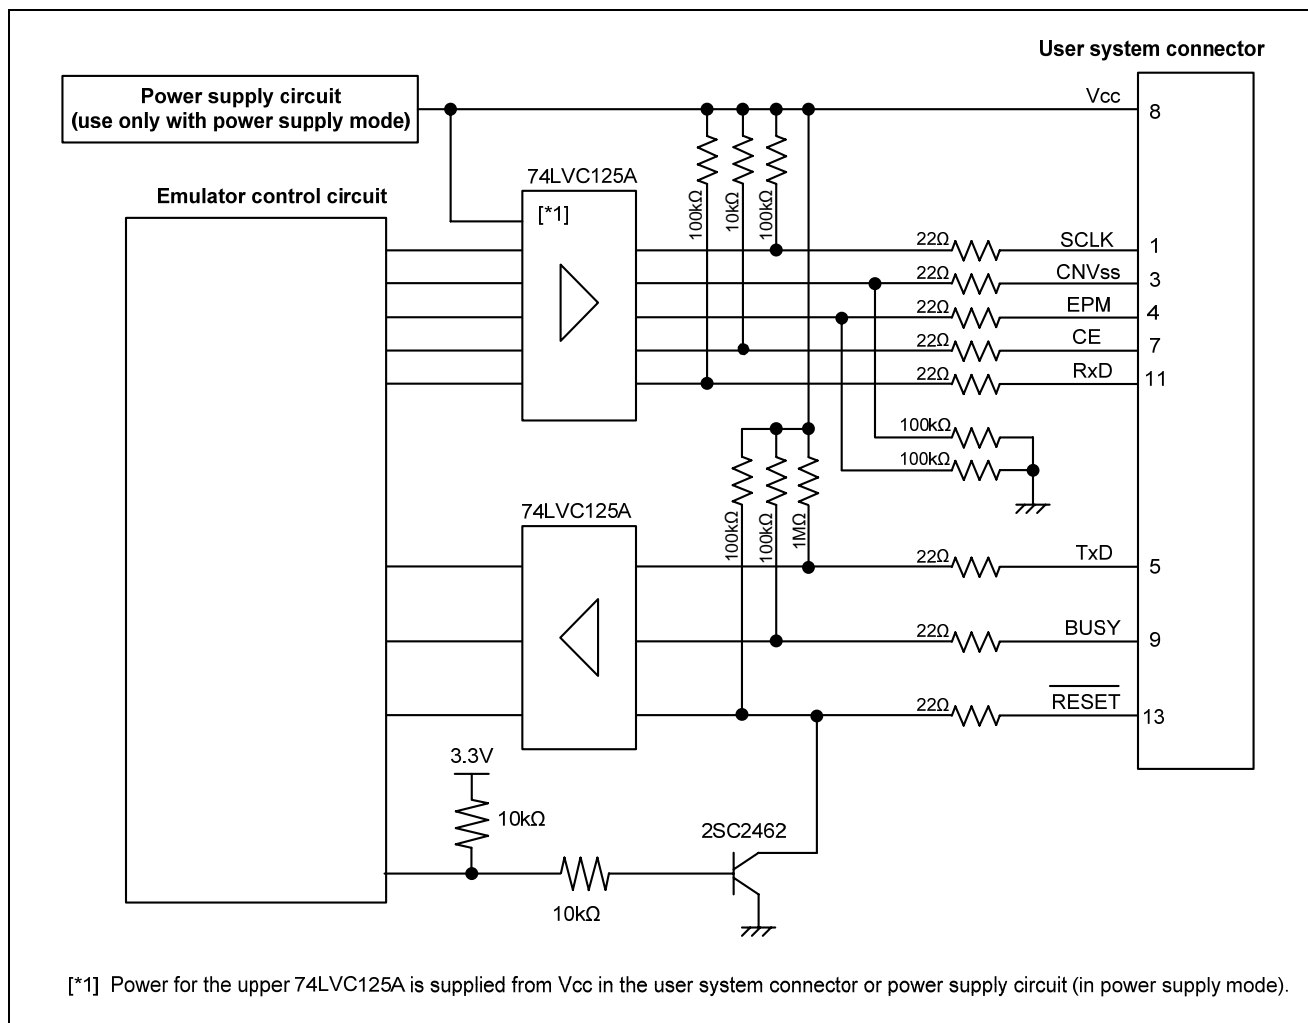

Figure 5.12 Interface Circuit Inside the E8 Emulator (For Reference)
1. Pins P64, P65, P66 and P67 are used exclusively by the E8 emulator. Connect the E8 emulator to the MCU pins. Connect pins P65, P66 and P67 to the E8 emulator after pulling up the MCU pins. Pull up or down on P64 according to the MCU pin state after disconnecting the E8 emulator. P64 may be in a Hiz state while the E8 emulator is active. Therefore, set the pin resistance value so the voltage cannot be at the midpoint potential, depending on the voltage dividing of the resistance inside the E8 emulator (Figure 5.12).
Pull up or down on P50 and P55 according to the MCU pin state after disconnecting the E8 emulator. P50 and P55 may be in a Hiz state while the E8 emulator is active. Therefore, set the pin resistance value so the voltage cannot be at the midpoint potential, depending on the voltage dividing of the resistance inside the E8 emulator (Figure 5.12).
Pull up or down on P55 according to the MCU pin state after disconnecting the E8 emulator. P55 may be in a Hiz state while the E8 emulator is active. Therefore, set the pin resistance value so the voltage cannot be at the midpoint potential, depending on the voltage dividing of the resistance inside the E8 emulator (Figure 5.12).
9. Figure 5.12 shows the interface circuit in the E8 emulator. Use this figure as a reference when determining the pull-up resistance value.